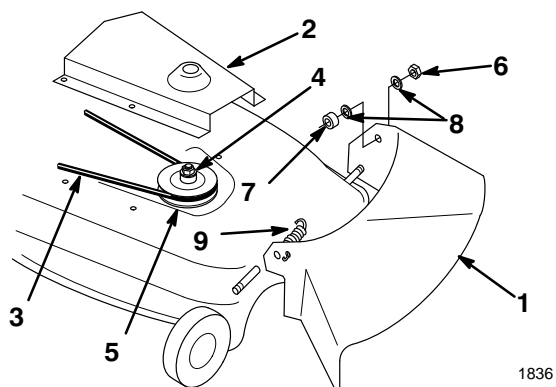

Figure 39
1. Install discharge chute onto mower with saved hardware (Fig. 39).
2. Install belt cover onto mower (Fig. 39).